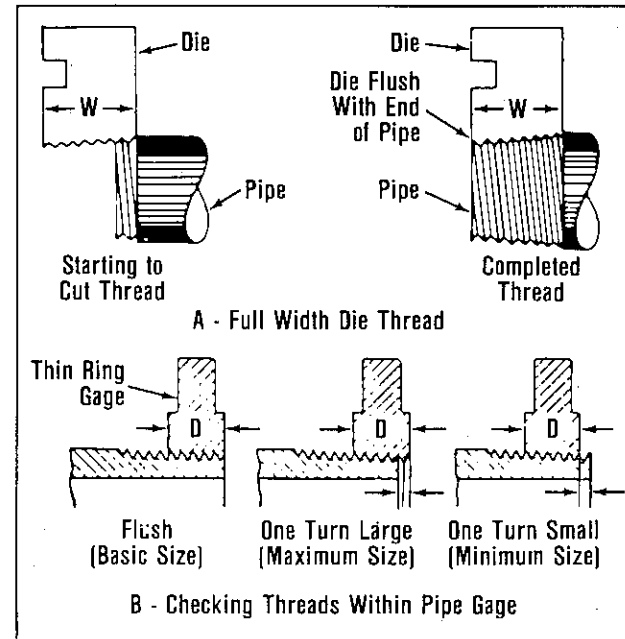

Figure 21. Checking Thread Length.
### Checking Thread Length (Fig. 21)
1. Thread is cut to proper length when end of pipe is flush with edge of Dies (A. Fig. 21).
2. Die Head is adjustable to obtain proper thread diameter. If possible, threads should be checked with a thread Ring Gage (B, Fig. 21). A proper thread is cut when end of pipe is plus or minus one turn of being flush with face of Ring Gage.